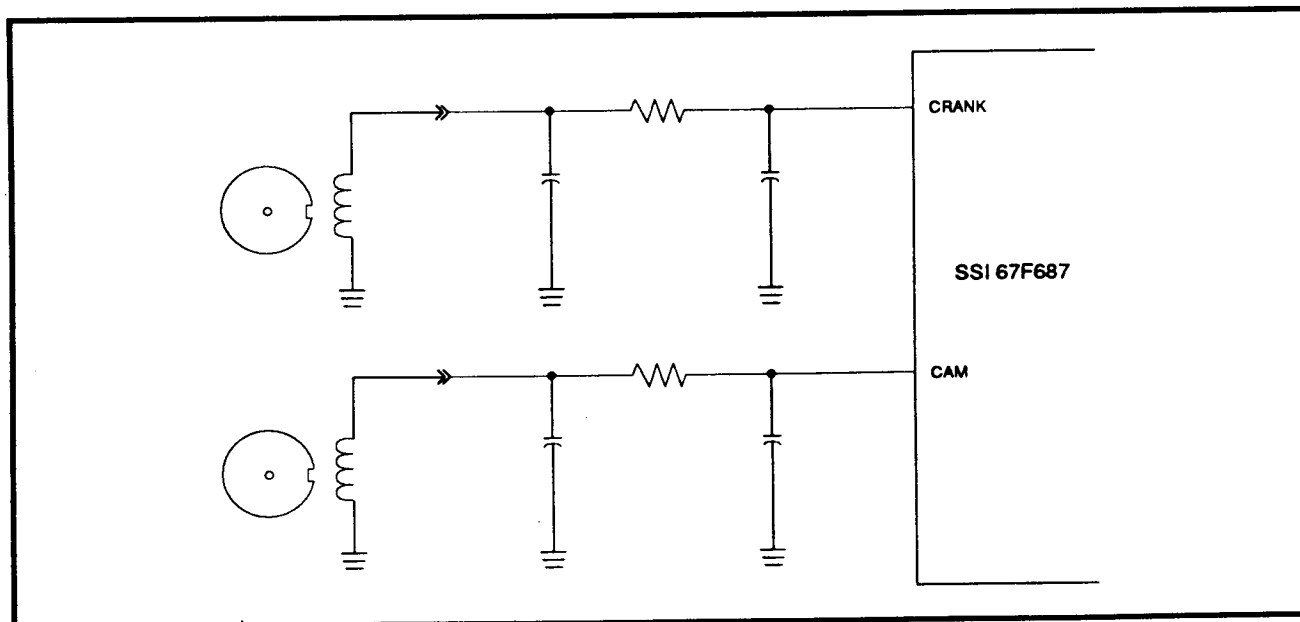

FIGURE 5: Typical EIP VR Sensor External Circuit
The Position Sensor Interface (PSI) accepts 2 sensor inputs which are used to determine the operating position of an engine. One can indicate crankshaft angle position, and the other camshaft position. These sensors can typically be either Variable Reluctance (VR) or Hall Effect type. Figure 5 shows a typical VR sensor external input circuit. These are conditioned in the 67F687 to provide clean digital pulses to the Engine Position Tracker (EPT).